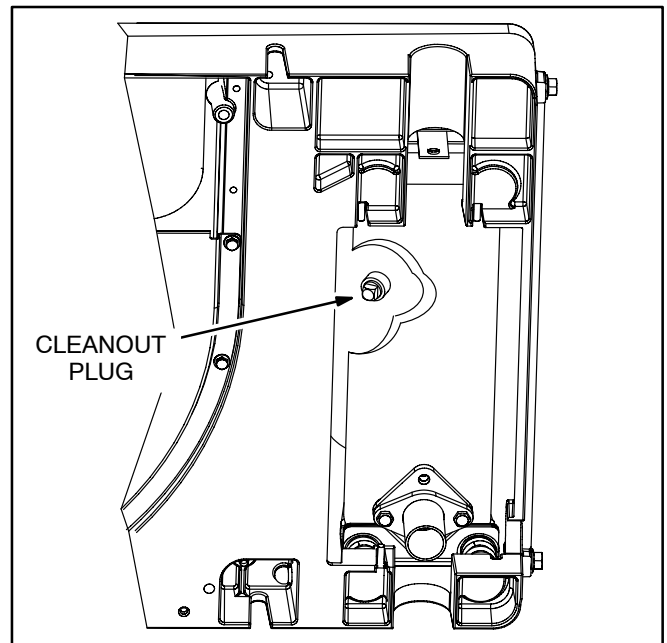
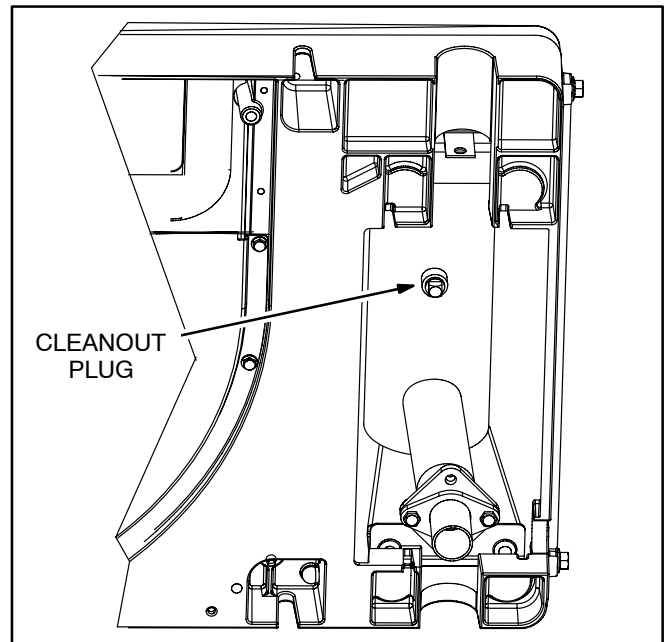
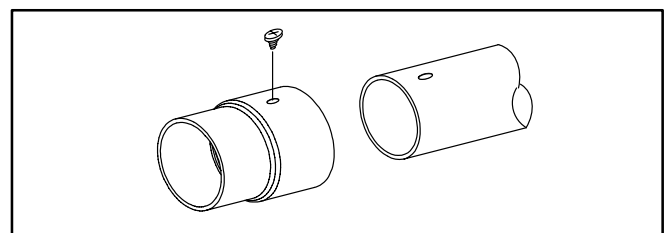

FIGURE 3-5. HJGAA & HGJAD CLEANOUT PLUG—VIEW FROM BELOW
FIGURE 3-6. HJGAB & HGJAE CLEANOUT PLUG—VIEW FROM BELOW
FIGURE 3-7. TYPICAL SPARK SCREEN
**HGJAA & HGJAD:** A double-drum muffler is mounted inside the genset. The cleanout plug is in the top drum, but accessible from below, though not readily visible. In Figure 3-5 a portion of the lower drum is cut out so that the location of the plug is visible.
**HGJAB & HGJAE:** See Figure 3-5 if double-drum or Figure 3-6 if single-drum. On a single-drum muffler the cleanout plug is accessible from below as shown in Figure 3-6.
**HGJAC & HGJAF:** The muffler is externally mounted. If it has a clean out plug like the one shown in Figure 3-6, use the instructions for Series HGJAB as a guide. Alternatively, the end of the tail pipe may have a spark screen (Figure 3-7). If so, remove the screw that secures the spark screen, clean the screen with a wire brush and re-install it.